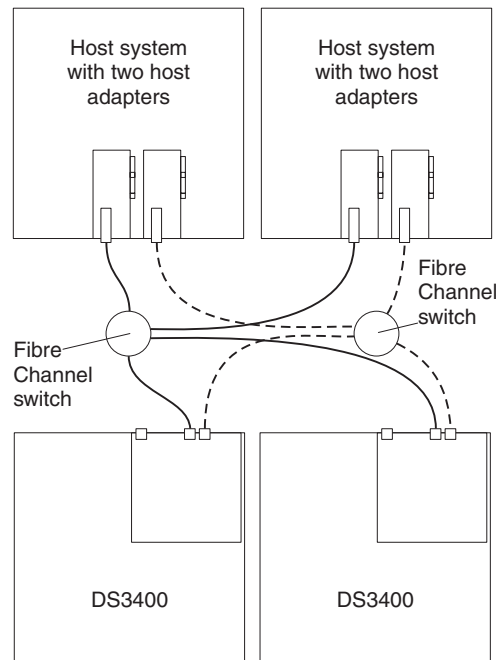

Figure 48. Example of two storage subsystems in a dual SAN environment
- Two storage subsystems in a dual SAN fabric configuration, as shown in Figure 48 on page 54
In Figure 48, the Fibre Channel switches are not connected together. Each switch forms its own SAN fabric.